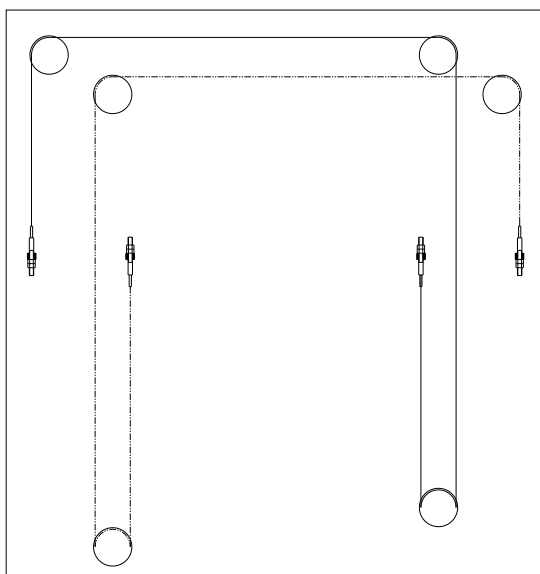

Fig. 37
- ◆ Install the synchronization cable according to fig.37.